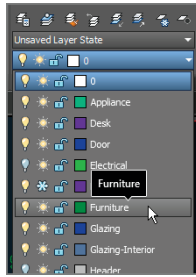

FIGURE 6.6 Setting Furniture as the current layer using the drop-down menu in the Layers panel
4. If you plan on drawing more than one object, a more efficient approach is to set the current layer before drawing so that the new object will have the proper layer assignment automatically. Open the Layer drop-down menu in the Layers panel, and click on or to the right of the word Furniture to set this layer as current (see Figure 6.6).